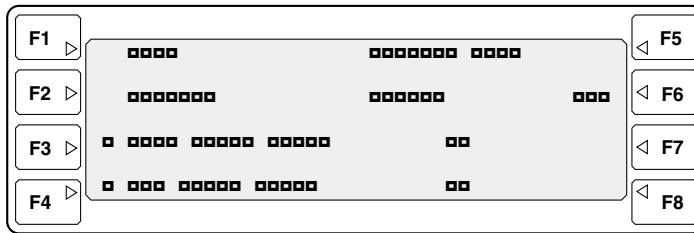

Figure 31. Sample Resident I/O – Edit Screen
- ◆ Resident I/O parameters – displays the Resident I/O parameters menu (see Figure 31 on page 39).
The Resident I/O – edit screen (see Figure 31) is accessed through the Parameter edit screen. You can edit only the High and Low alarm limits for analog input points.